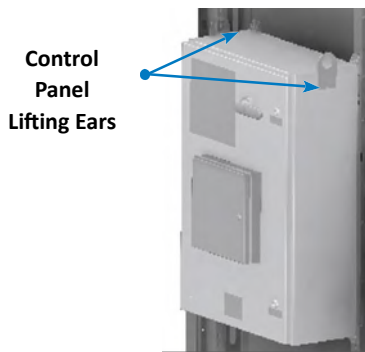

Figure 8. Touchscreen Control System Panel
1. After the module is fully assembled, attach the bracket and mounting channel for the control panel. Measure the control panel width before installing the mount channel to match the mounting location. Also check the control panel location on Face A or B. Refer to your submittal drawing (see **Figures 8 and 9**).